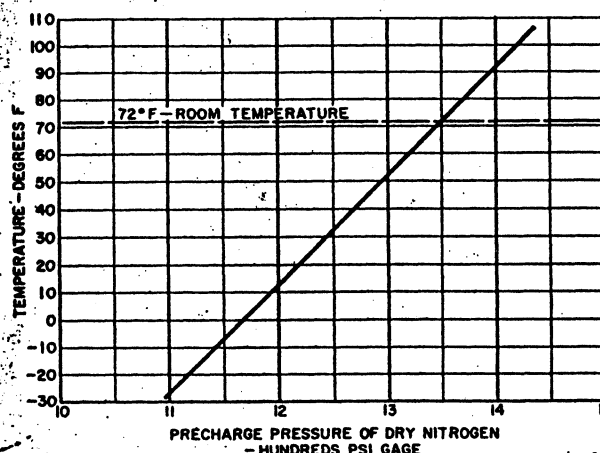

FIGURE 8
- Energize motor. Pressure gage needle should rise suddenly to precharge pressure, then continue to rise slowly. The precharge pressure should be according to curve, Figure 8.
- a. The motor-driven hydraulic pump initially forces hydraulic fluid into the pressure storage chamber (hydraulic accumulator previously charged with gas according to the pressure-temperature curve, Figure 8), until the fluid occupies approximately 50 per cent of the original volume. The 50 per cent reduction in gas volume increases the pressure in the chamber to 3000 psi.